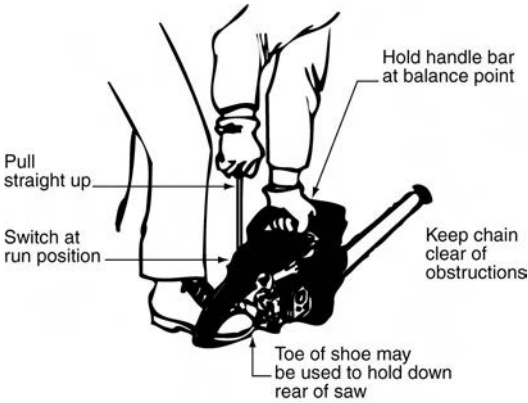

Figure 11D. Starting a Chain Saw
- b. Rest the saw on a solid surface. Do not rest it against your body when starting it. See Figure 11D.